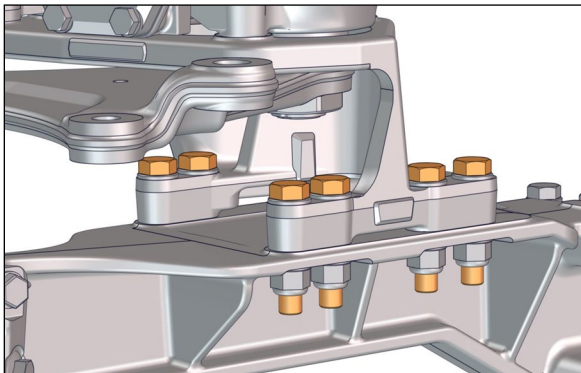
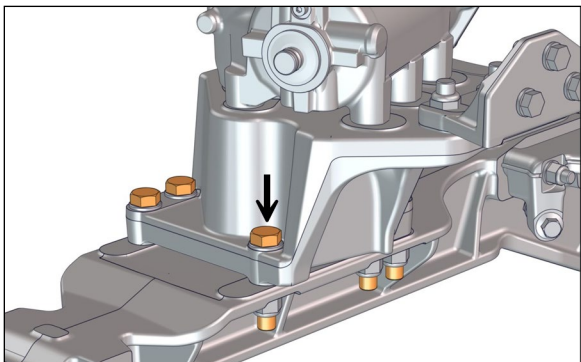

FIGURE 8
FIGURE 9
10. Unscrew seven (7x) bolts fastening the pedestal to the backbone (Figure 8 & Figure 9).